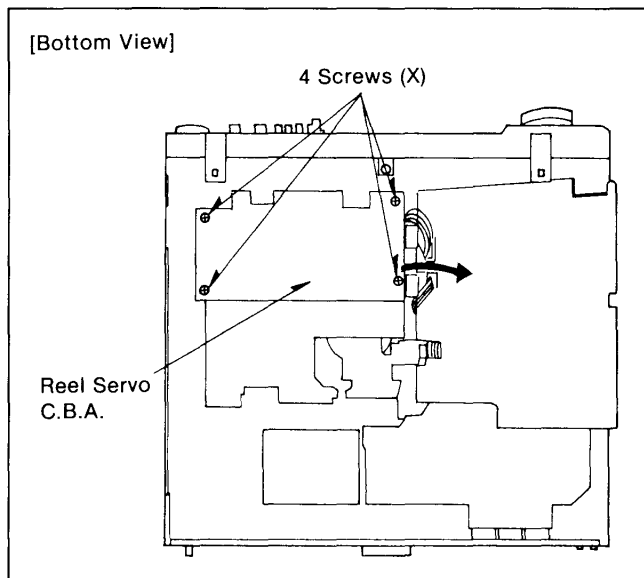

Figure D24
1. Unscrew the 4 screws (X) on the Reel Servo C.B.A. (Figure D24).